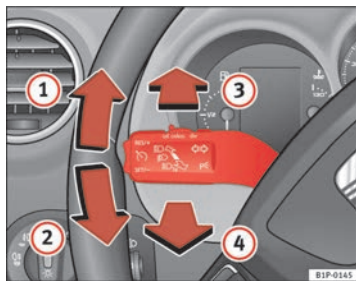

Fig. 76 Turn signal and main beam headlight lever
- Move the lever all the way up \Rightarrow fig. 76 ① to indicate **right**, and all the way down ② to indicate **left**.
- If the dipped lights are on, push the lever forward \Rightarrow fig. 76 ③ to switch on the main beam.
- Push the lever towards the steering wheel \Rightarrow fig. 76 ④ to switch off the main beam.